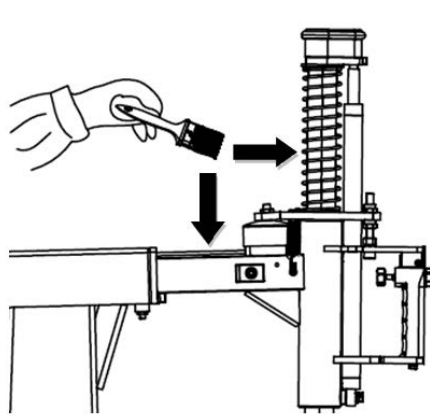

FIG 38
- Use the lubricant to wash the hexangular shaft and quadric horizontal arm (**Fig38**).